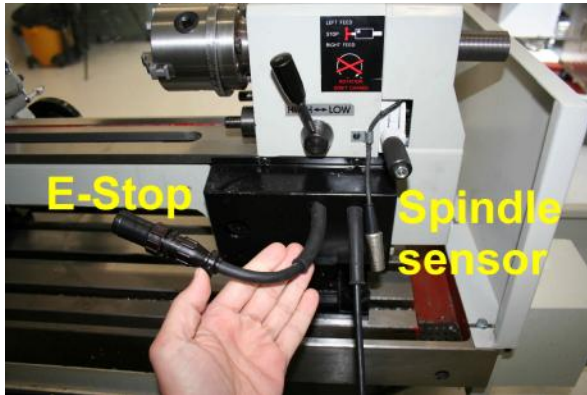

Figure 2.6 – E-Stop & Spindle cables, Lathe end
1. On the back of the headstock, there is a 6" cable with a E-Stop Feedback Block (p/n 30786) plugged on it. (figure 2.6)